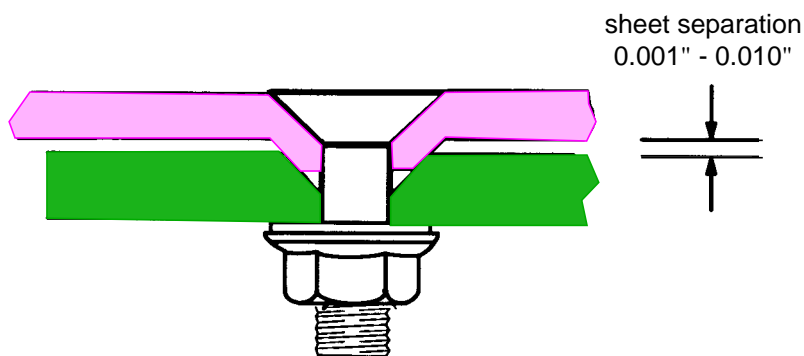

Figure 11 - Sheet Separation
- 9.1 Ensure that a small gap or sheet separation of 0.001" to 0.010" exists between sheets if a dimpled sheet nests into another dimple or into a countersink, as shown in Figure 11.